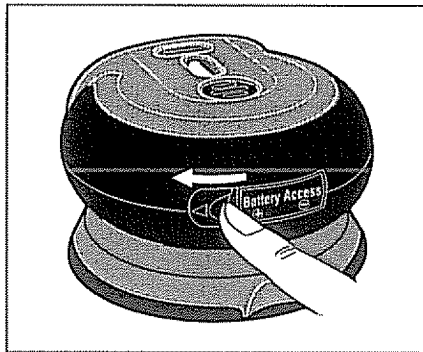

Fig. 4
### To Install Batteries (See Fig. 4 & 5)
1. **Push** lightly on the level in the direction of the marked arrow shown in Fig. 4. The battery compartment cover will be opened automatically at once.